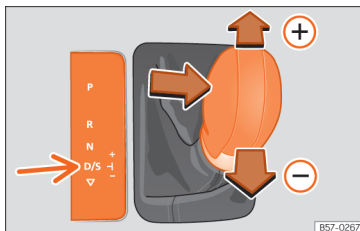

Fig. 138 Lever in the Tiptronic position
- Push the lever forwards or backwards to move up or down a gear »» Fig. 138.